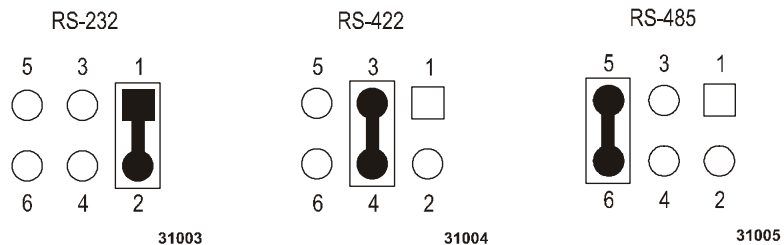

Figure 3: Heading settings on logic board
8. Use the pliers to install the jumper at another position on the header (Figure 3). The position of the jumper will configure the serial port to operate in RS-232, RS-422, or RS-485 modes.